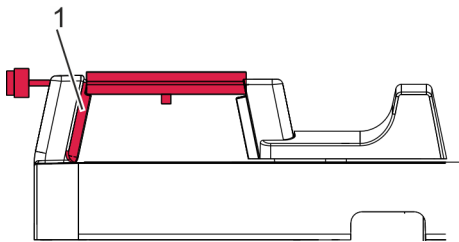

Fig. 16: Watch movement clamped without housing
2. ➤ Place the watch movement on the clamping area so that the plate is positioned above the signal sensor (Fig. 16/1).